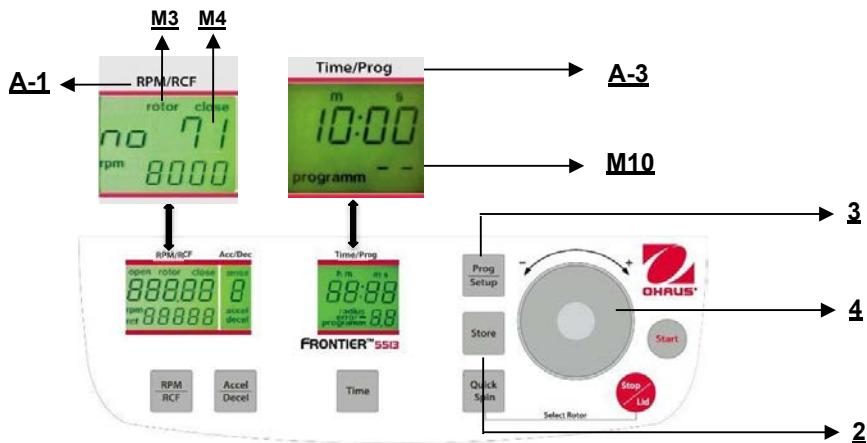

Figure. 22
To recall stored programs, press the key "Prog/Setup" (3) (refer to figure 22) while the lid is already closed. Inside the display "Time/Prog" (A-4), "programm -"(M10) appears. The desired program number can be pre-selected with the adjusting dial (4).
To leave the program mode just press the key **"Prog/Setup"** (3) (refer to figure 22). Then inside the display **"Time/Prog"** (A-3) the word **"programm"**(M10) appears.